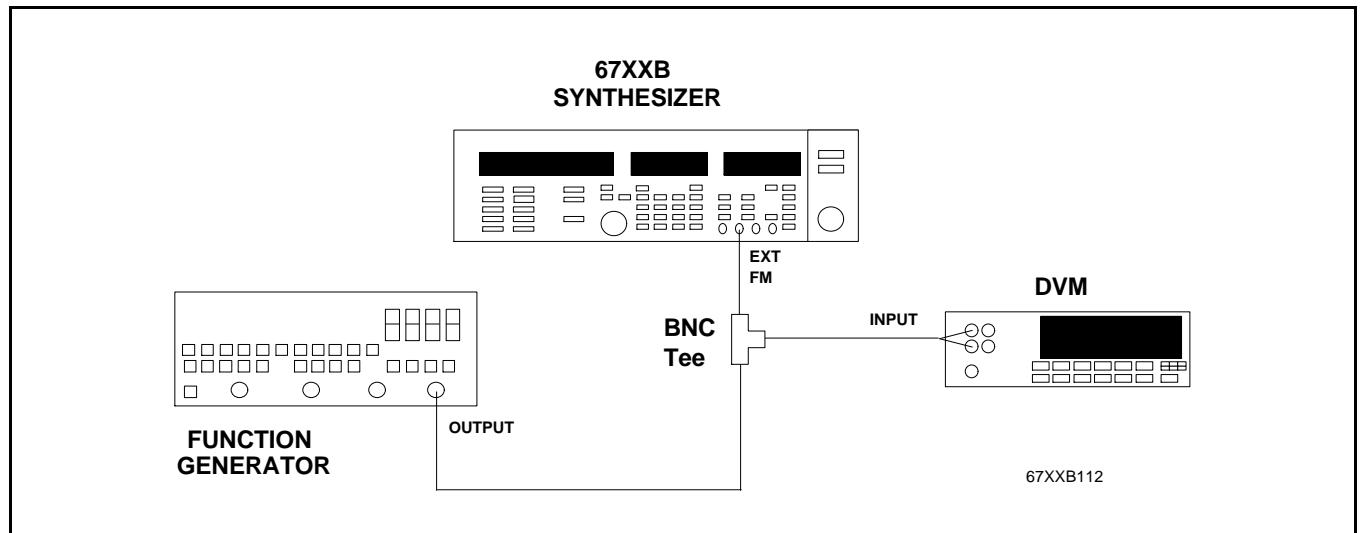

Figure 3-21. Test Equipment Setup for FM Meter Calibration
1. Connect the equipment, shown in Figure 3-21, as follows: